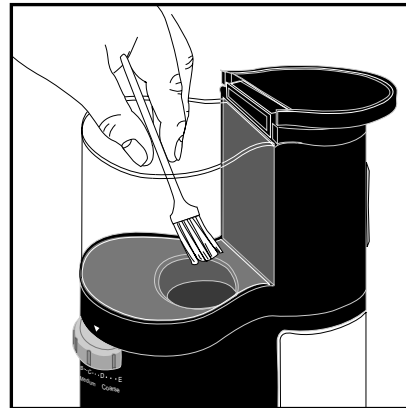

Figure 3
3. Clean the interior recesses with a soft brush (Figure 3). **Note: Never use water nor any liquid to clean the lower grinding section of this appliance. BRUSH NOT INCLUDED.**